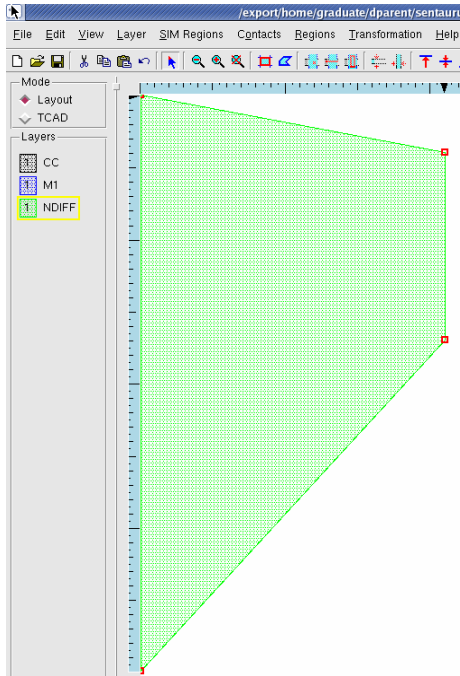

Figure 21: Results of setting the lower left corner to $x=0$ and $y=0$.
9. In a similar manner edit the lower left corner to be 0,0 (Figure 21).